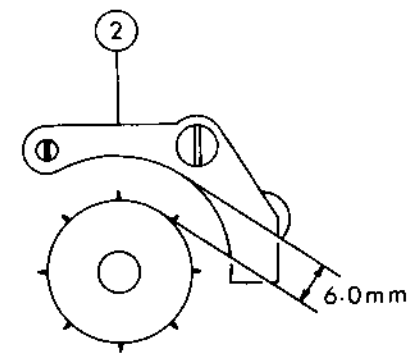
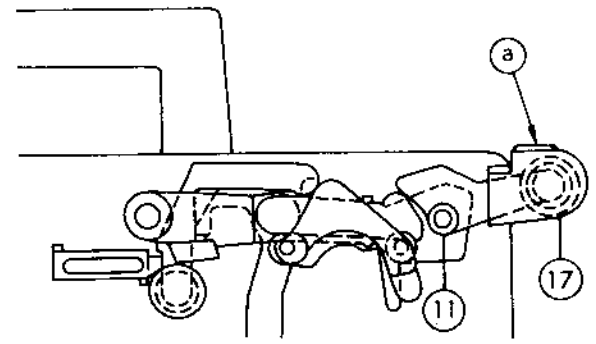

Fig. 39
Fig. 40
2. Replace ④, ⑬ or ⑱ if damaged or deformed.
3. Carry out temporary tightening of ⑦ and ⑨.
5. Roller ⑳ provides loop at the upper part of film gate; adjust ⑨ and fix so that ⑳ slightly touches ㉑, with the knob main set to OFF.
6. Set the film, and turn the knob main gently from OFF to FWD. Then the roller ④ installed to ② pushes the film and gets engaged with the sprocket gears (teeth), and P.P. pushes the film down to A.P. Here, ㉒ detaches one step away from ㉓. Install ⑦ to this position. (See to it that the space between sprocket and ② is approx. 6 mm. Refer to Fig. 39)
7. Measurement of spring tension of ⑫
Method: — Refer to Fig. 40, and measure by pushing ⑰ "a" in arrow mark direction with the rod spring beam (C043).